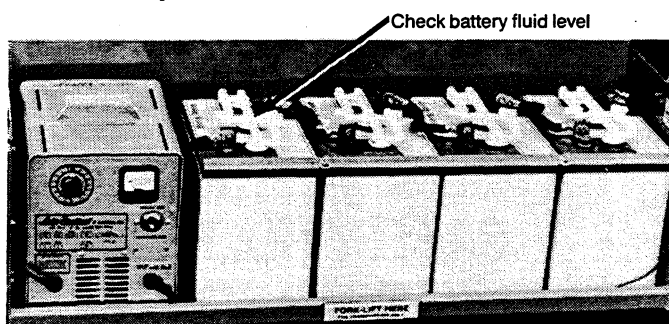

Figure 2. Energy Module
4. Check battery fluid level (Figure 2).